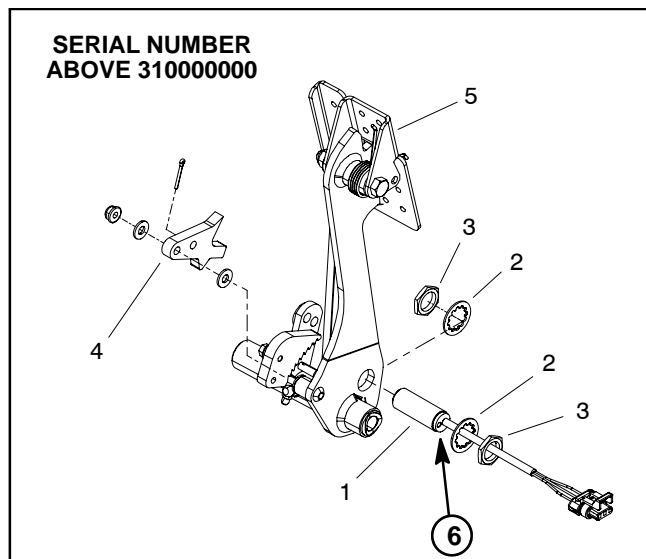

Figure 36
3. On machines with serial numbers above 310000000 (Fig. 36), test parking brake switch as follows: